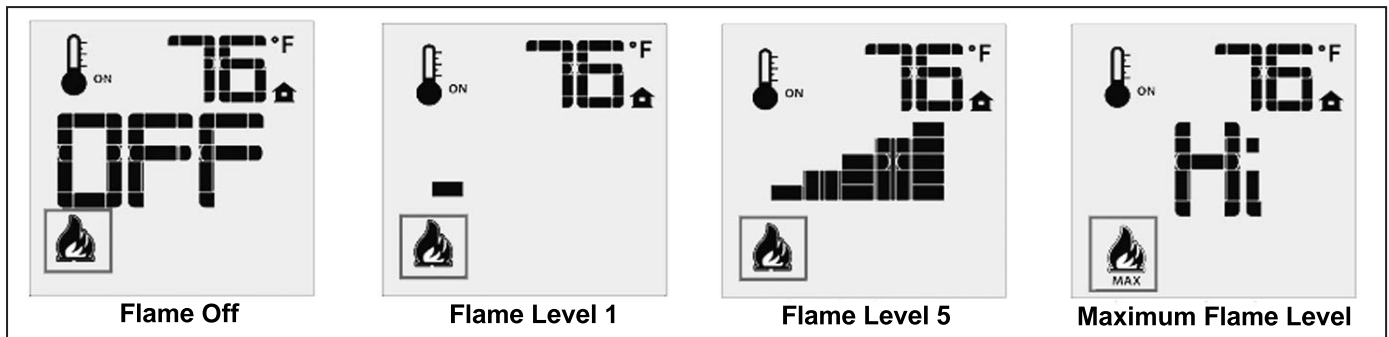

Figure 13: Remote Control's Flame Levels.
The Proflame 2 GTMF has six (6) flame levels. With the system on, and the flame level at the maximum in the appliance, pressing the Down Arrow Key once will reduce the flame height by one step until the flame is turned off. The Up Arrow Key will increase the flame height each time it is pressed. If the Up Arrow Key is pressed while the system is on but the flame is off, the flame will come on in the high position (refer to Figure 13 below). A single "beep" will confirm reception of the command.